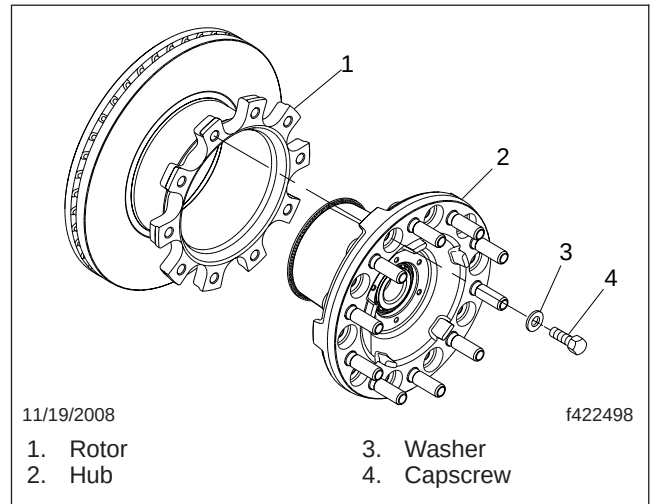
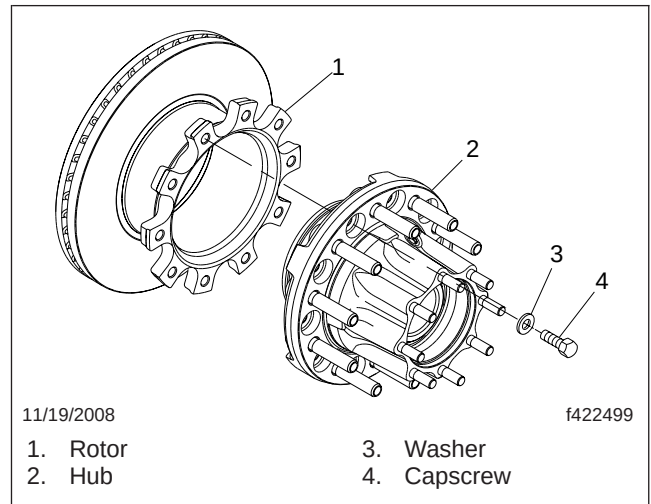
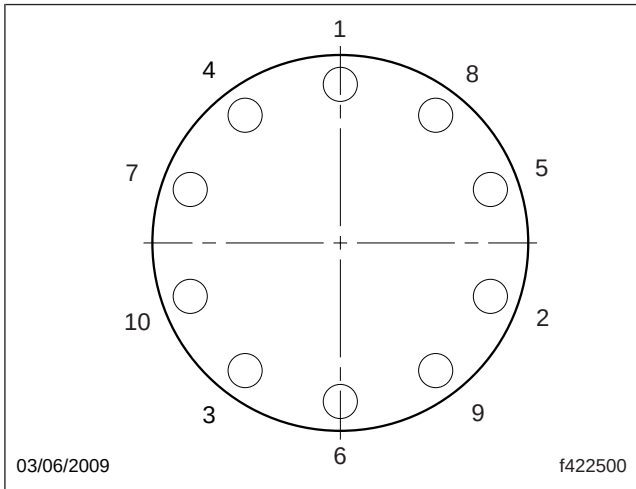

Fig. 1, Front Rotor Installation
Fig. 2, Rear Rotor Installation
Fig. 3, Tightening Sequence
If replacing the rotor, remove the capscrews from the hub, and remove the brake rotor. See Fig. 1 for front axles, or Fig. 2 for rear axles.
2. If replacing the rotor, position the new rotor on the hub, and install the capscrews. See Fig. 1 for front axles, or Fig. 2 for rear axles. Tighten 190 to 210 lbf·ft (258 to 285 N·m) using the sequence shown in Fig. 3.